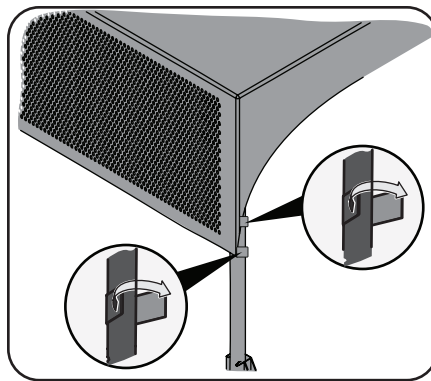

Figure 3-14
4. Fasten velcro straps to secure sun shade to frame as shown in Figure 3-14.